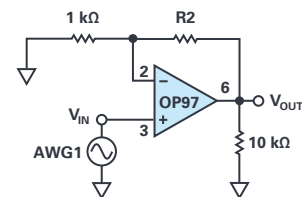

Figure 14. Noninverting amplifier with gain.
The noninverting amplifier configuration is shown in Figure 14. Like the unity-gain buffer, this circuit has the (usually) desirable property of high input resistance, so it is useful for buffering nonideal sources:
- ▶ Considering the noninverting amplifier in Figure 14, compute the gain as a function dependent on  $R_1 = 1 \text{ k}\Omega$  and  $R_2 = 1 \text{ k}\Omega$ .